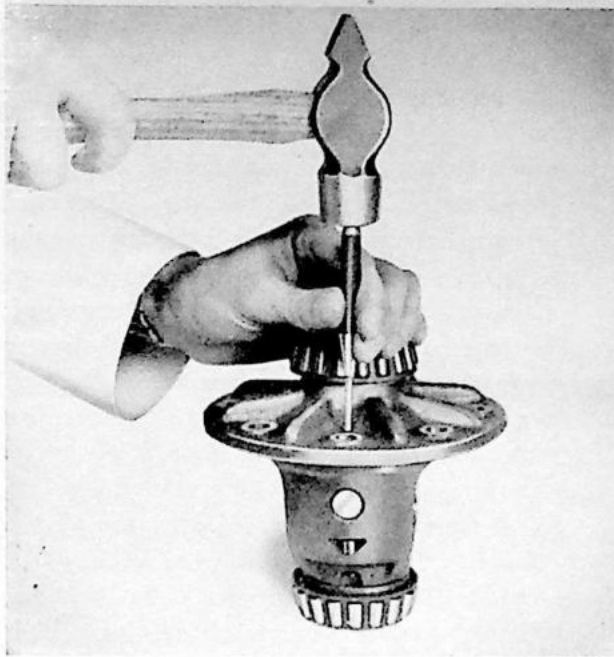

Fig. 26. Removing locking pin.
1. Remove the bolts (38) and take out the ring gear (15).
2. Drive out the locking pin (27), see fig. 26 and then the shaft (28) for the differential gears. Take out the thrust block (29). Take out the differential gears (33, 36) and thrust washers (34, 37).